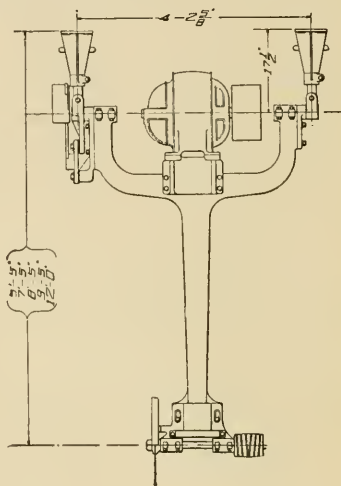

FIG. 1.— SWING CUT-OFF SAW.
2.-- General The swing cut-off saw, Fig. 1, is supported from the wall and ceiling and has a large counterweight to pull it back to the wall after making a cut. The frame is of heavy cored construction and rests against the wall back of the table when not in use. The table has rollers, the face of which are slightly higher than the table. This is done in order to make it easier to move the stock while working at the saw. The motor rests in the top of the frame and drives the saw by means of an endless belt. In the best types of saw the construction is such that the belt can be tightened without cutting it. Figures 1 and 2 show the slotted holes just above the arbor which permits of this adjustment. Another advantage of this construction is that the saw arbor may be removed from the frame for rebabbiting the bearings.